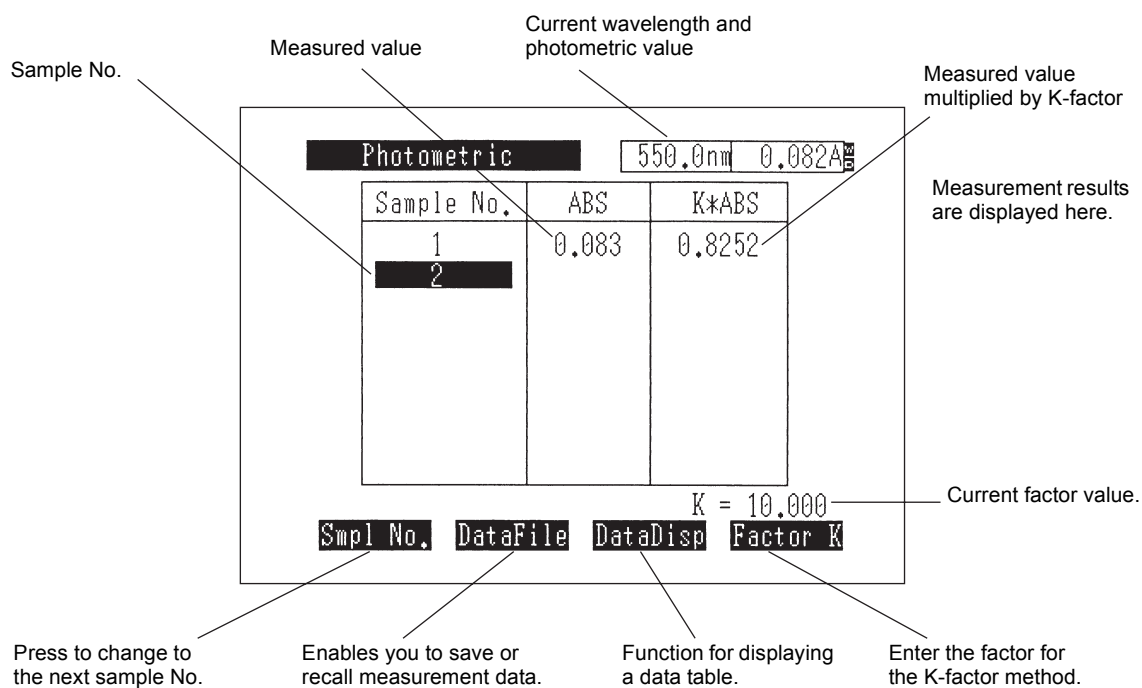

Fig. 4.2(A) Photometric measurement screen
(At the same time that you press the [START/STOP] key, the first measurement will be performed.) The method of assigning sample Nos. in the measurement screen in Fig. 4.2(A) differs when a standard sample compartment, Sipper 160 and syringe sipper (both options) are used, and when a multi-cell and CPS-240 (all options) are used.